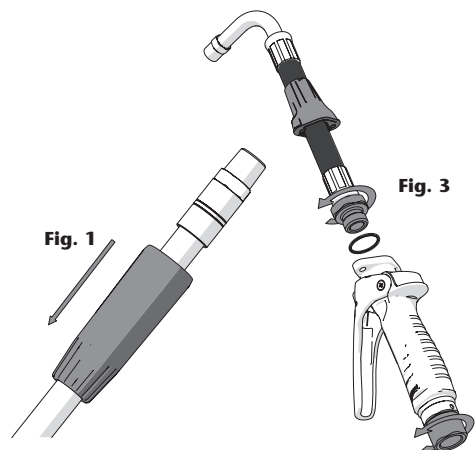

Fig. 3
- To connect the gun to the network, keep fixed the gun body and the end of the hose while rotate the free end of the swivel to achieve the desired torque (fig. 3).